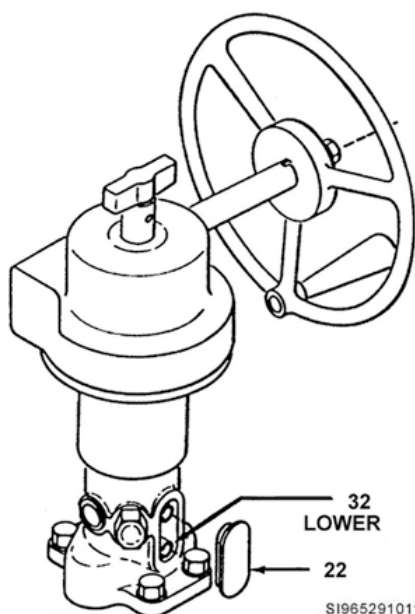

Figure 2-10. General Twin Seal Valve operator.
The only reason to remove the operator is because it is not doing its job of opening or closing the valve. Even though this is rare, an operator's parts can become worn or break causing an inoperable condition. To remove the valve operator (fig. 2-10), you must *first* fully close the main valve. Then, remove the two plastic plugs (item 22) at the bottom of the operator housing. Knock out only the lower coupling pin (item 32); do not remove the upper coupling pin. Remove the cap screws attaching the operator to the valve bonnet. Once this is done, just lift the operator off the valve by pulling up vertically until it clears the upper plug trunnion.